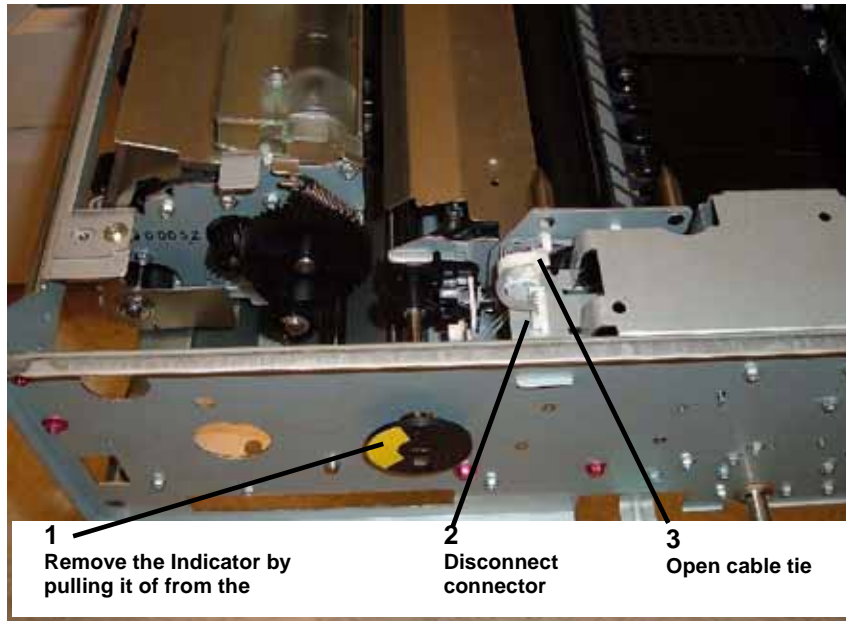

Figure 4 Removing the Indicator and disconnecting connector
5. Remove Indicator and disconnect connector (Figure 4).